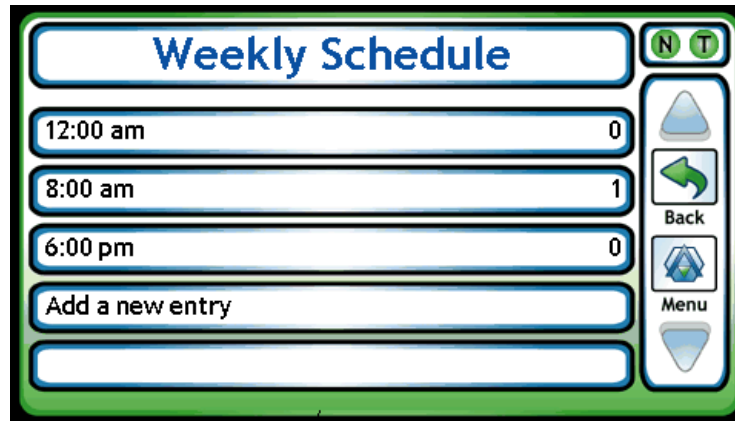

Figure 5-15 Time Values for a Day of the Week
4. The information returned will display time-value sequences used by the schedule. A maximum of 15 time & value sequences can be displayed by the BBC-SD. Depending on the current state of the device, a specific day of the week could potentially have no time-value pairs defined, or have multiple. If you wish to add a new entry, select *Add a new entry* (Figure 5-15).